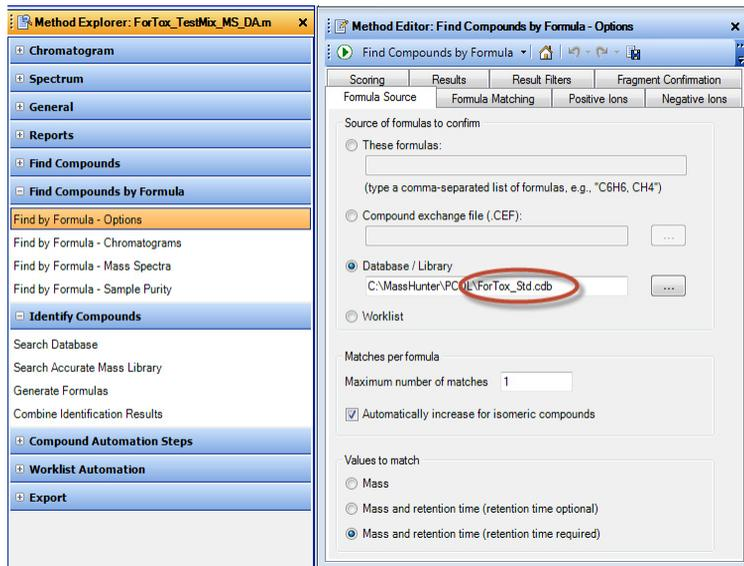

Figure 2 Find by Formula Method Editor Options (Custom Database)
- b Select the custom database **ForTox_Std.cdb**. See Figure 2.